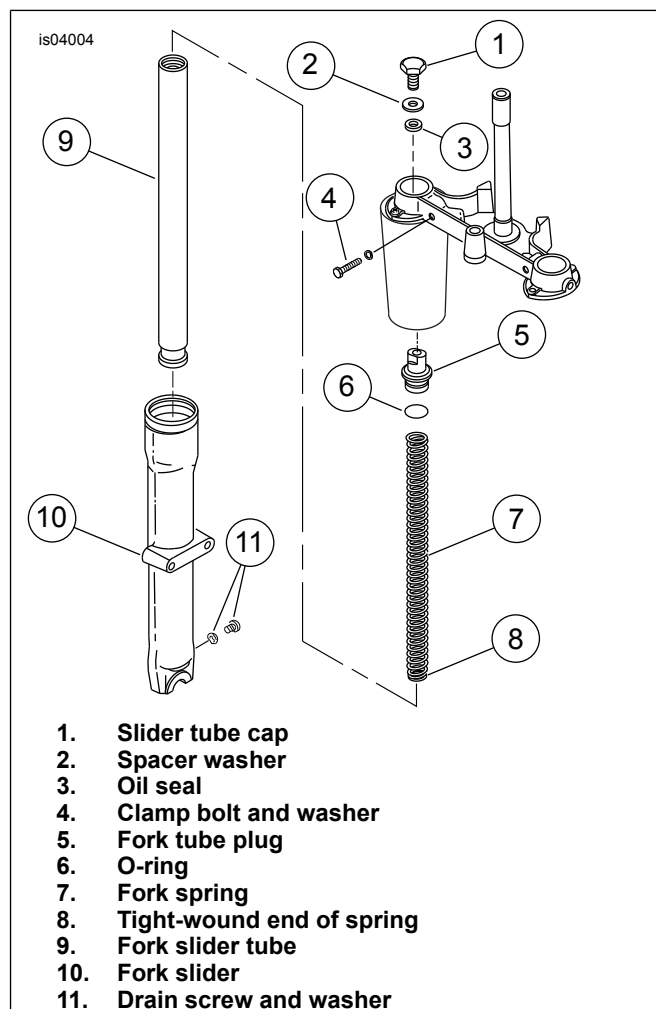

Figure 1. Front Fork
4. See Figure 1. Remove the slider tube cap (1), spacer (2) and oil seal (3) from the top of one fork side. Save the cap and spacer. The oil seal can be discarded.
5. Loosen the clamp bolt (4) and pull the fork from the brackets.
7. See Figure 1. Remove the fork tube plug (5) and O-ring (6). Pull the spring (7) out of the slider tube (9). Remove the drain screw and washer (11), and drain the fork. Install the drain screw and washer, and tighten to 52-78 in-lbs (5.9-8.9 Nm).